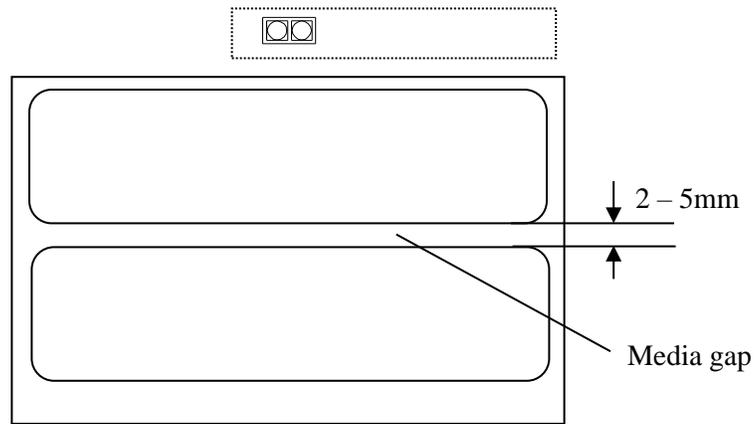

Figure 7-3
4. Remove the Media Sensor cover and slide the Media Sensor to the appropriate position (see Figure 7-3, 7-4 and 7-5).